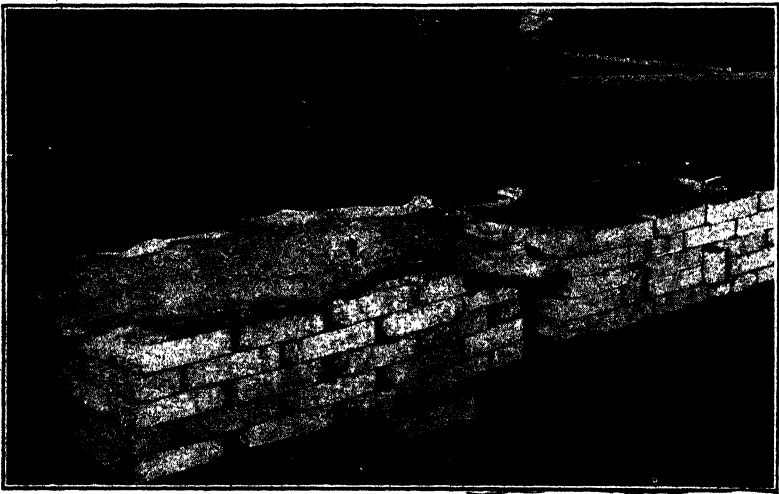

Fig. 40. Charcoal Fire for Pre-Heating Castings
*Charcoal Fire.* The most satisfactory method of pre-heating is by means of a charcoal fire built around the article to be welded. The usual procedure is to build a small temporary fire-brick furnace around the piece and fill in with charcoal, Fig. 40. This is ignited by means of kerosene. As the progress of the ignition of the charcoal is rather slow, the pre-heating is carried out gradually. The nature of this pre-heating flame is of such evenness and volume that the temperature imparted to the casting is the same throughout its mass.